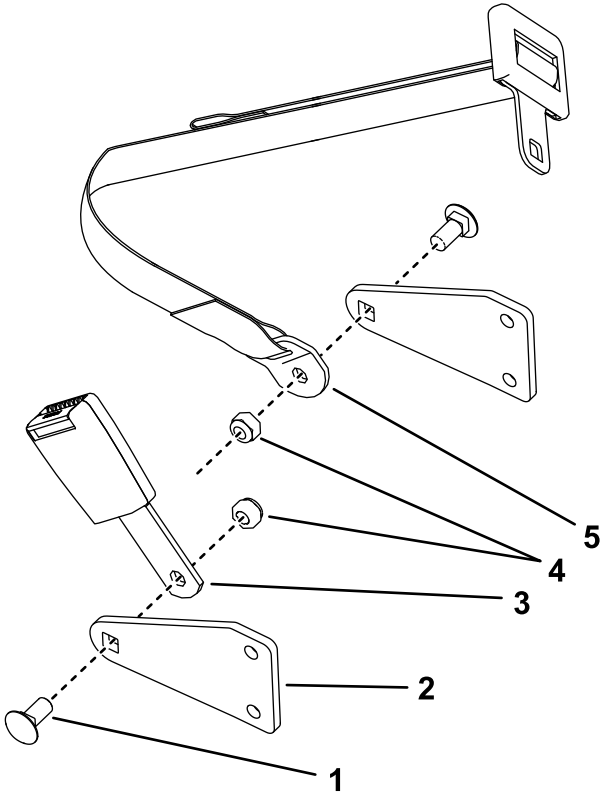

Figure 9
1. Install the seat belt buckle and tongue to the inside of the seat belt brackets with 2 carriage screws (7/16 x 1 inch) and 2 locknuts (7/16 inch) as shown in Figure 9.